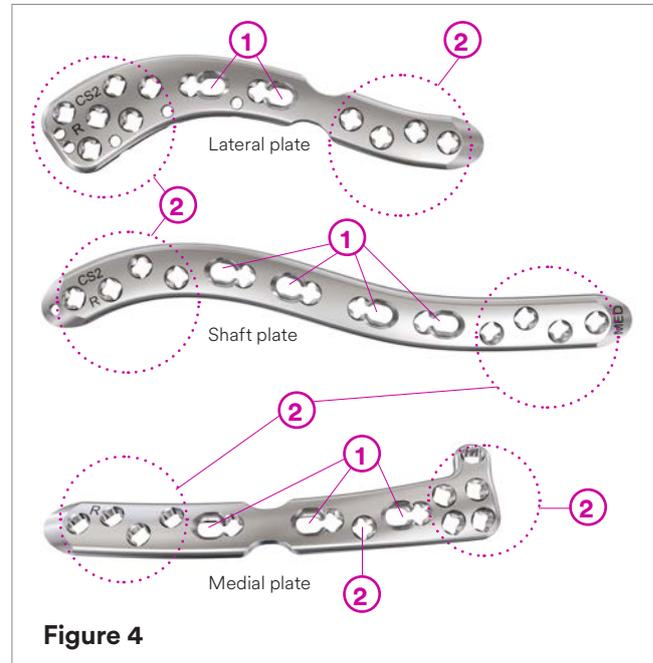
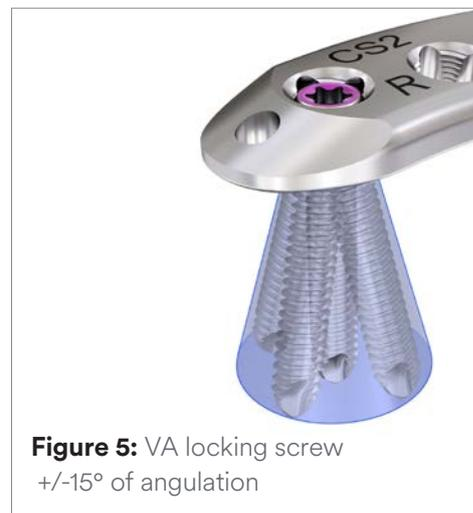

Figure 4
Figure 5: VA locking screw
Cortex screws can be used in the non-threaded DCU portion of the VA Combi hole (1) (Figure 4) in the neutral/centered position or in the eccentric position for compression. Cortex screws can be used in VA locking hole (2) in the nominal position only. If a cortex screw is placed in a VA locking hole, it cannot be placed in an eccentric position and the screw head will not sit flush with the plate surface.
VA locking screws can be used in VA locking holes (2) (Figure 4) at either a nominal angle or at variable angles (Figure 5). VA locking screws can also be used in the threaded portion of VA Combi holes. VA locking screws should not be used in the non-threaded DCU portion of VA Combi holes.
Metaphyseal screws provide compression with a low-profile screw head that sits flush with the plate. Metaphyseal screws have the same screw shaft thread as the VA locking screws and can be used in VA locking holes (2) (Figure 4) and the threaded portion of VA Combi holes (1) at the nominal angle. They cannot be used in the non-threaded DCU portion of VA Combi holes.